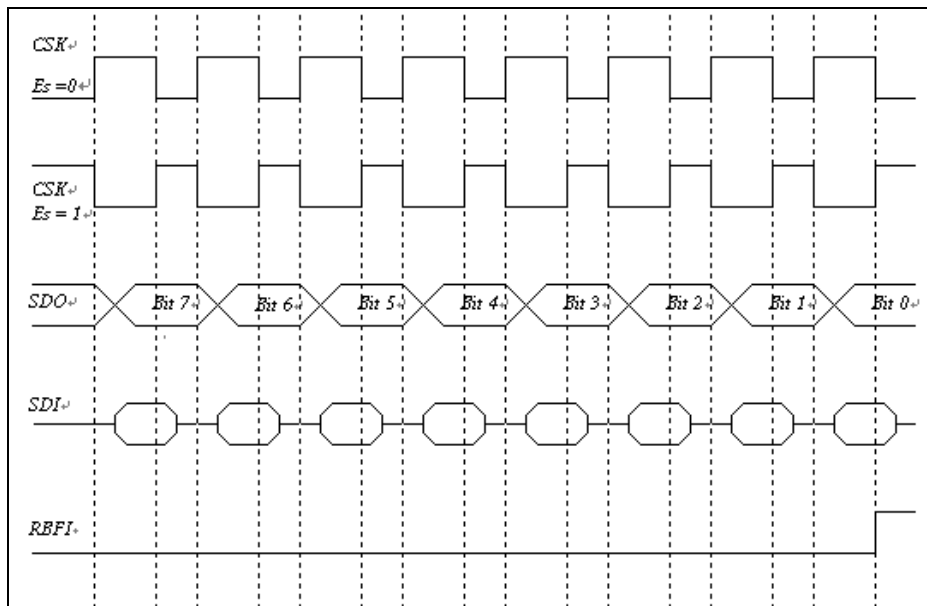
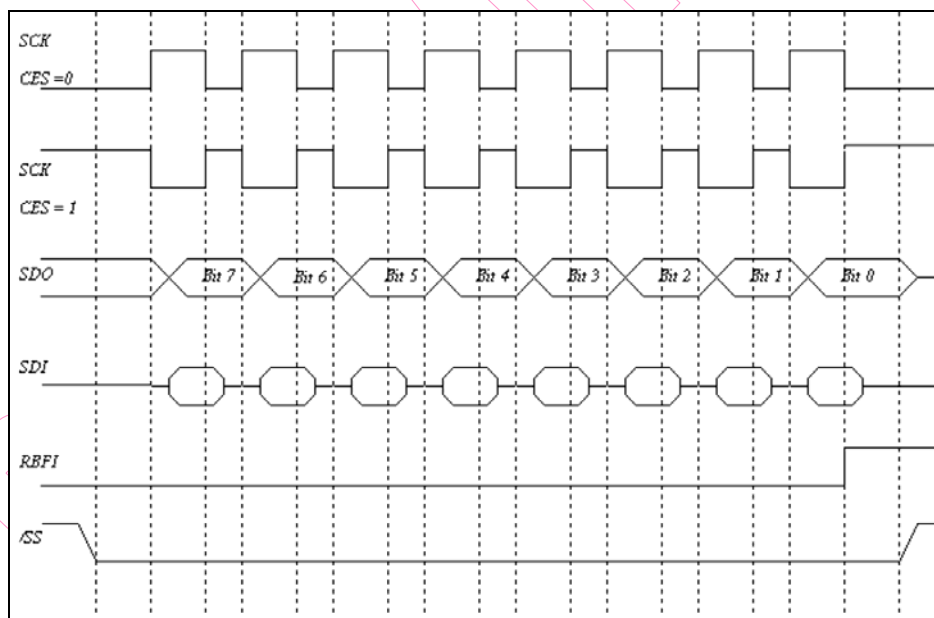

Fig. 24 SPI Mode with /SS Disabled
Fig. 25 SPI Mode with /SS Enabled
- Timing is shown in Fig. 24 and 25
- Timing is show in Fig. 24 and 25
The SCK edge is selected by programming bit CES. The waveform shown in Fig. 24 is applicable regardless of whether the EM78F568N is in master or slave mode with /SS disabled. However, the waveform in Fig. 25 can only be implemented in slave mode with /SS enabled.